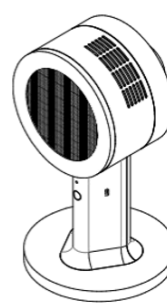

Fig. 14
14. Replacement completed [Fig. 14].